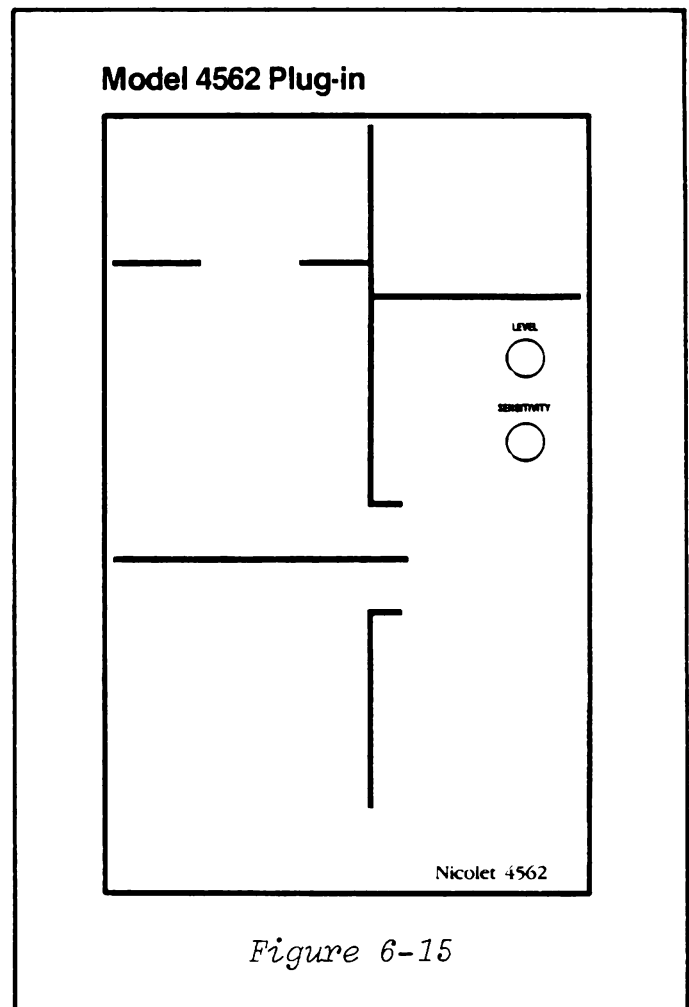

Figure 6-15
- #15. Adjust the trigger LEVEL control (Figure 6-15) until the two horizontal lines intersect with the waveform.
- #16. Adjust the trigger SENSITIVITY control (Figure 6-15) while watching for the waveform to "free-run."